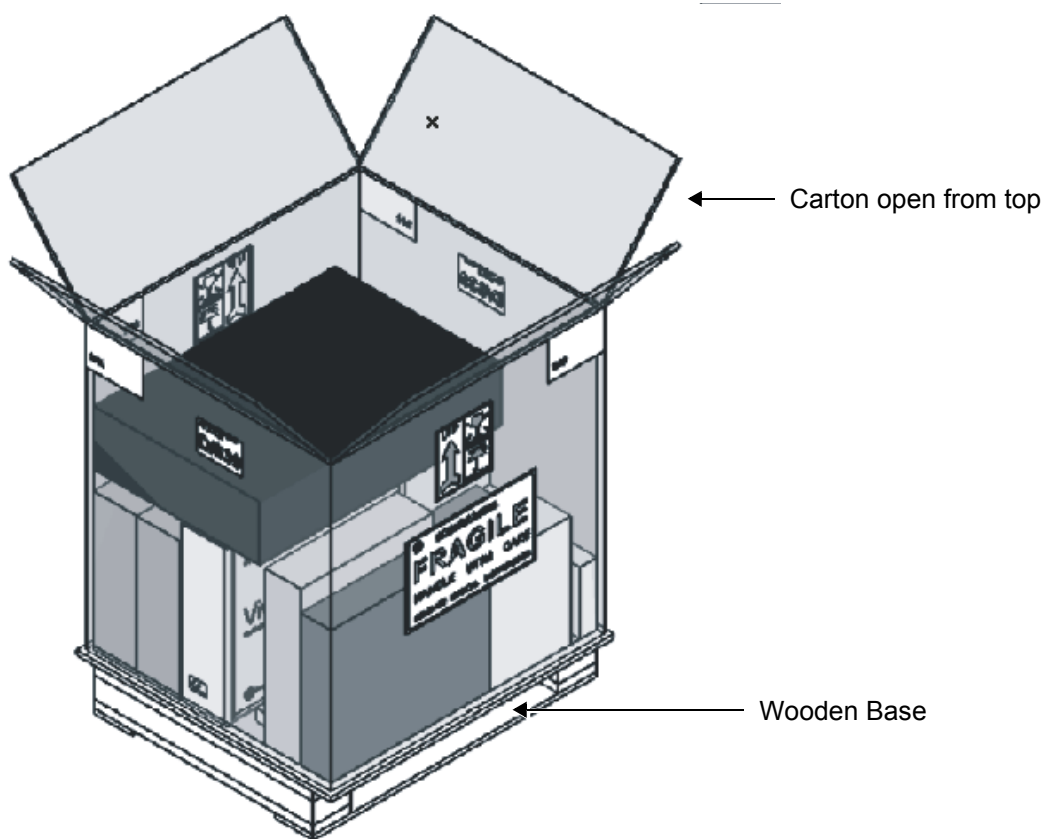

Figure 3-8 Vivid-i™/ Vivid-q™ with Peripherals - Carton Open
- 2.) Carefully cut the adhesive tape used to close the shipping carton lid, and open the carton from the top - see Figure 3-8 below.